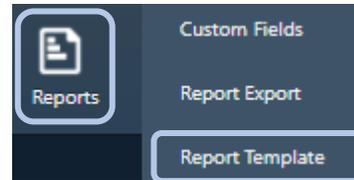

Figure 53: Report Export menu item
1. Click the **Reports** icon in the toolbar and click **Report Template** (Figure 53).